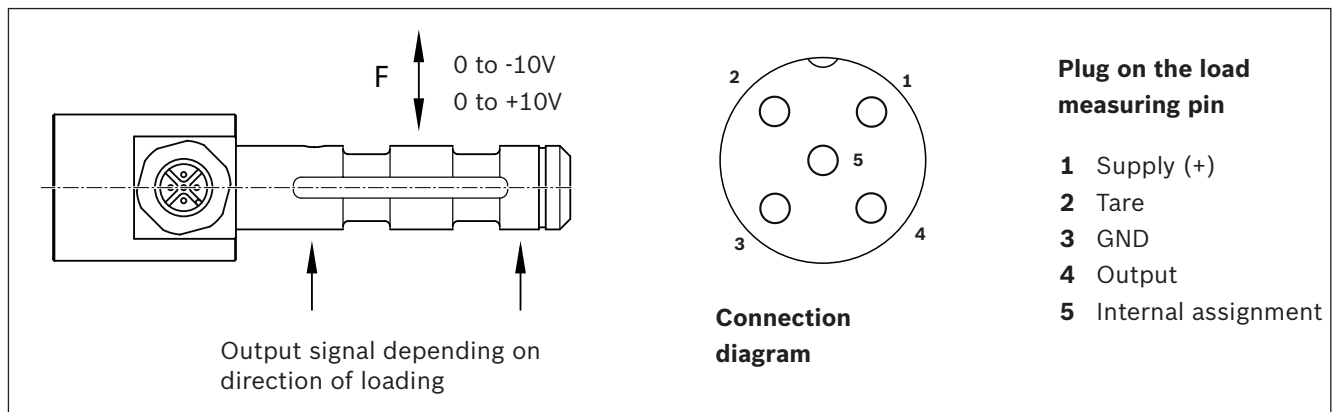

Fig. 11: Connecting the electrical power supply to the load measuring pin
3. Push the load measuring pin (1) by hand between the spherical rod end bearing (2) and the clevis mount (3).
4. Use the included pin lock (4) to secure the load measuring pin (1) axially and against twisting on one side of the clevis mount (3).
5. Align the electrical connection on the load measuring pin according to the application. Polarity of the connection ➡ Fig. 11.